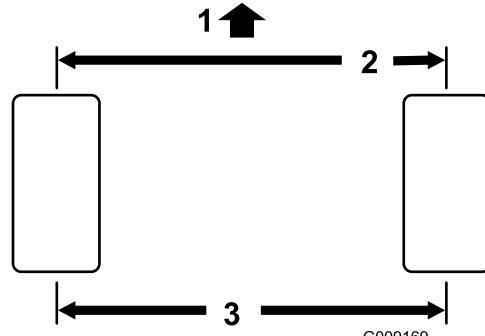

Figure 47
- Measure the center-to-center distance (at axle height) at the front and rear of the steering tires (Figure 47). The measurement must be within 0 ± 0.12 inch (0 ± 3 mm) at the front of the tire then at the rear of the tire. Rotate the tire 90 degrees and recheck the measurement.